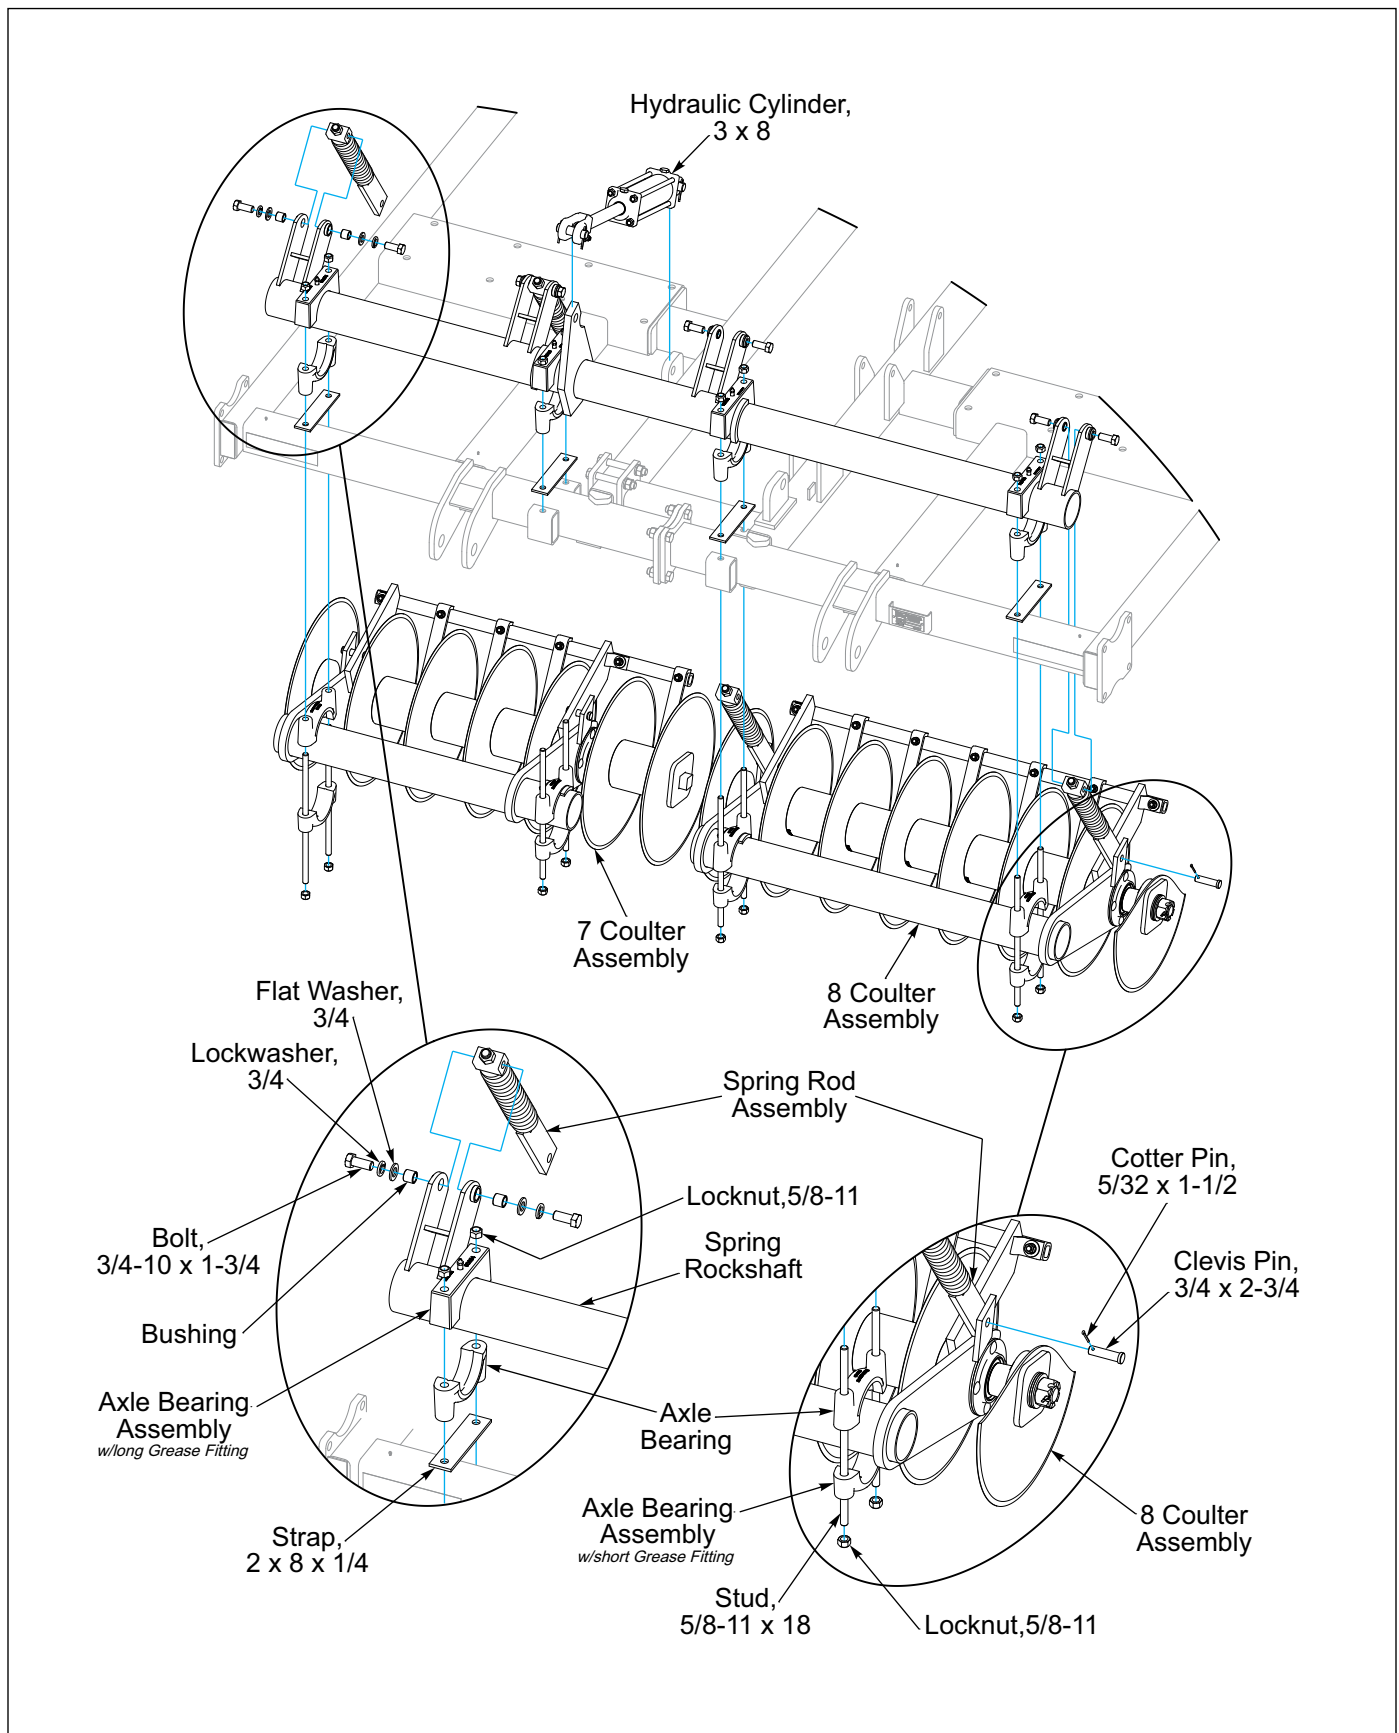

Figure 2-18: Hydraulic Coulter 7
3. Mount the Spring Rockshaft to the top of the front frame tube by placing an Axle Bearing half without the grease fitting under the Spring Rockshaft. Put a 2 x 8 x 1/4 Strap between the Axle Bearing and the Frame. Place an Axle Bearing Assembly with a tall grease fitting on top and insert 5/8-11 x 18 Studs through Bearings and Frame. Position the Spring Rockshaft so that the Inner Bearings are against the Spring Rockshaft Stops. **See Figures 2-18 through 2-21.**
6. Place the Axle Bearing Assembly with the short grease fitting under the Axle Bearing and raise each Coulter Gang Assembly so that the Long Studs go through these Axle Bearings as well. Fasten with 5/8-11 Locknut, **Do Not** tighten at this time. **See Figures 2-18 through 2-21.**